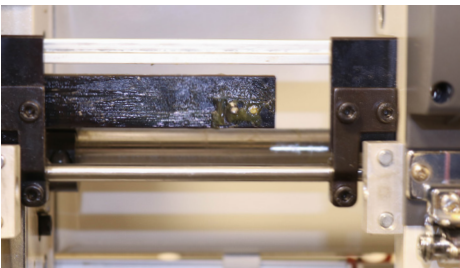

Figure 107
5. Remove the metal cover in between the two heads and apply white lithium grease on the cylindrical metal shaft that connects the machine's heads. **See Figure 107.**